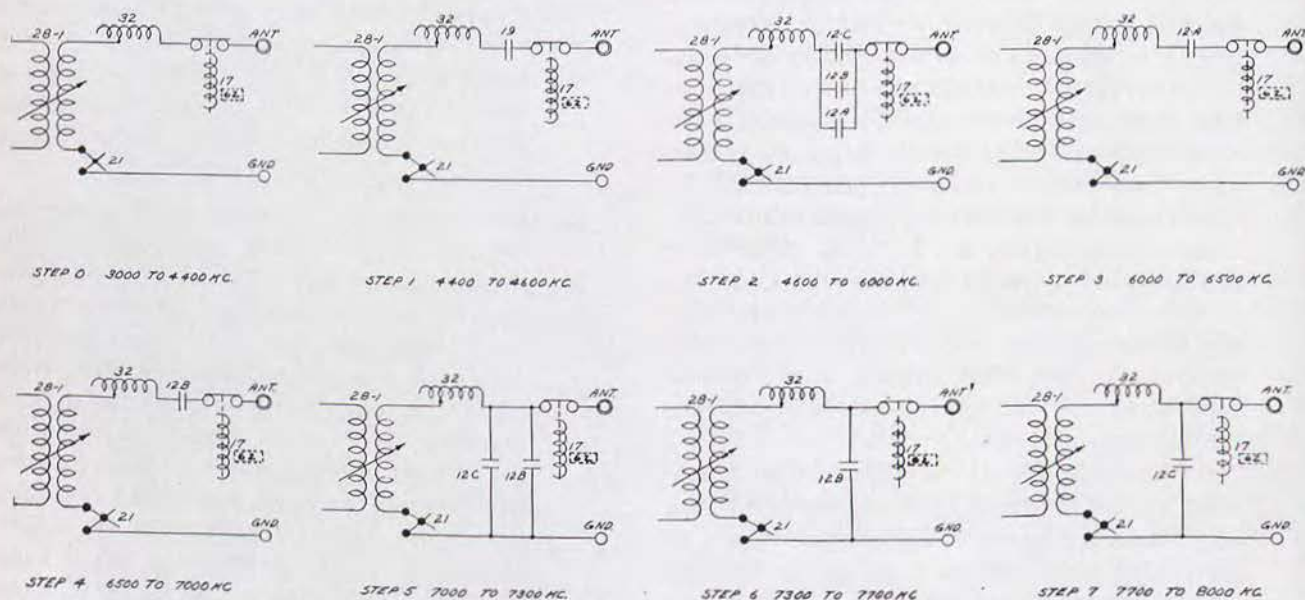

FIGURE 35—RADIO TRANSMITTER BC-338-A OR BC-353-A, ANTENNA TUNING STEPS, FUNCTIONAL DIAGRAM
3.1.2.3 Antenna Tuning:—Refer to Figure 35. The antenna tuning circuit consists of thermocouple 21, secondary of coupling transformer 28-1, variable inductance 32, capacitors 19, 12 A, B and C, switch 27 and a pair of contacts on relay 17. Each of the four channels has its own variable inductance parts 32, 39, 44 and 58. The antenna capacitors 12 and 19, however, are used in all channels, being automatically selected by switch 27 and motor 29-1, according to settings of switches 20-1 to 20-4 which are adjusted when the set is tuned.